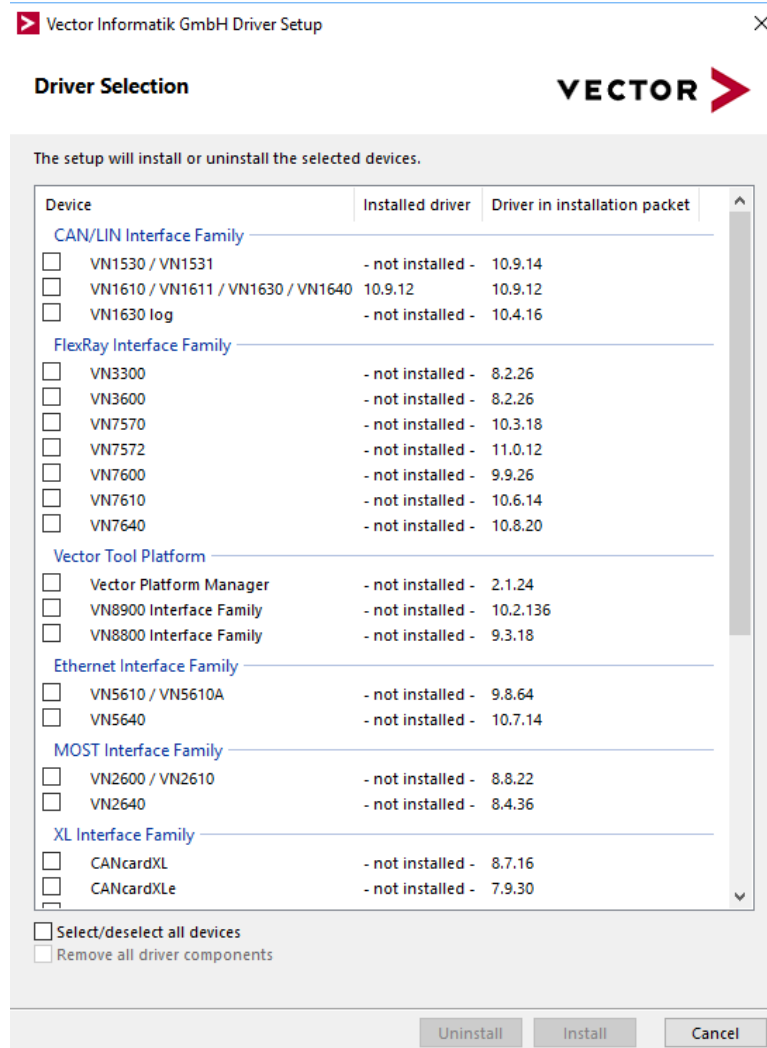

Fig. 4.47: Vector driver selection
- Select the drivers of the hardware device that shall be used and run the installation procedure (see Fig. 4.47).